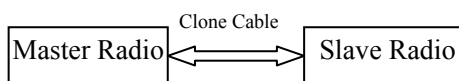

Figure 4.2
- b. Connect the slave radio to the master radio by the special clone cable, see figure 4.2.